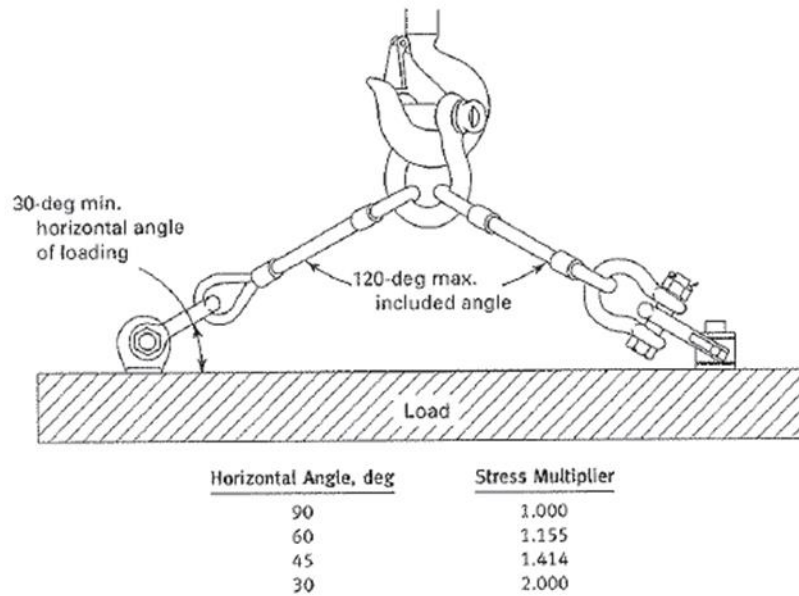

Figure 10 - Increased Stress on the Shackle when using Multiple Slings
3. When using multiple slings, do not exceed 120° included angle loading on shackle body (see Figure 10).